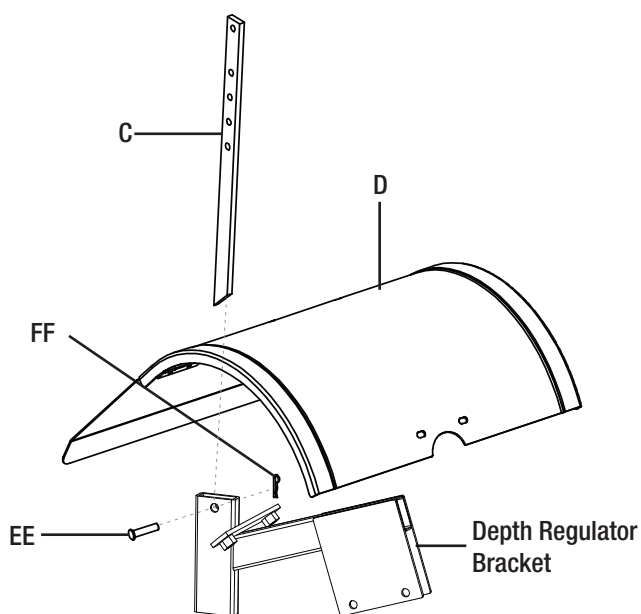

Figure 1-1
- Insert the depth regulator (C) through the protective shields (D) opening into the top of the depth regulator bracket with handle facing to the rear.
- Insert depth regulator clevis pin (EE) through the depth regulator bracket. Then insert the cotter pin (FF) to secure. The top hole of the depth regulator tines should clear the ground. See Figure 1-1.